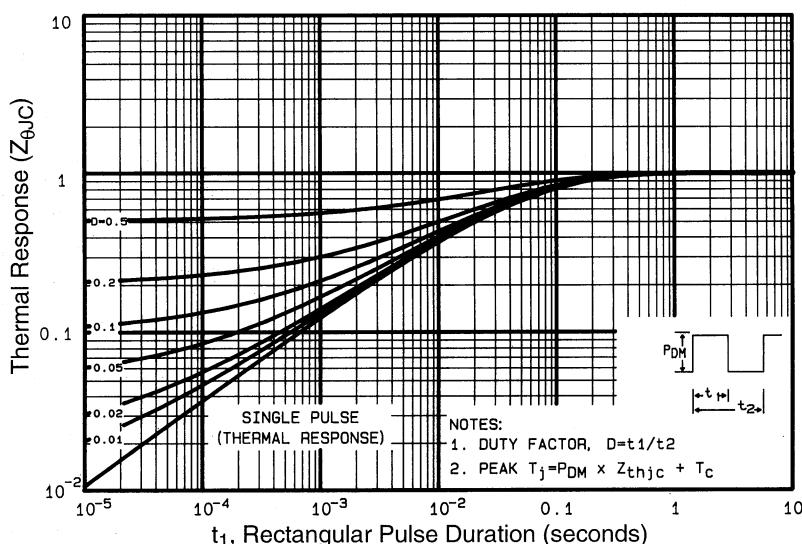

Fig 11. Maximum Effective Transient Thermal Impedance, Junction-to-Case
- ① Repetitive rating; pulse width limited by max. junction temperature. (See fig. 11)
- ② $V_{DD} = 25V$, starting $T_J = 25^\circ\text{C}$, $L = 44\mu\text{H}$